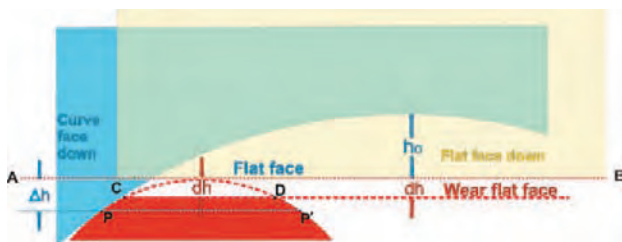

Fig.17. Effect of ball wear on arc height reading using Check Block, not to scale
The standard Check Block has a fixed, large, single curvature of one face. In the absence of any ball wear the flat face of the Check Block will make contact at the top of the balls along **A-B**, see schematic diagram fig.17. The curved face will make contact at some point, P . The corresponding gage reading will indicate that the arc height is h_0 . For single curvature $PP' = 0.6 \cdot h_0$.
Equation (8) is valid up to CD reaching PP' . Then dh has a maximum value, Δh , as shown in fig.17. PP' for the standard Check Block is 0.37mm ($0.6 \cdot 0.6096\text{mm}$) so that $\Delta h = 0.007\text{mm}$.